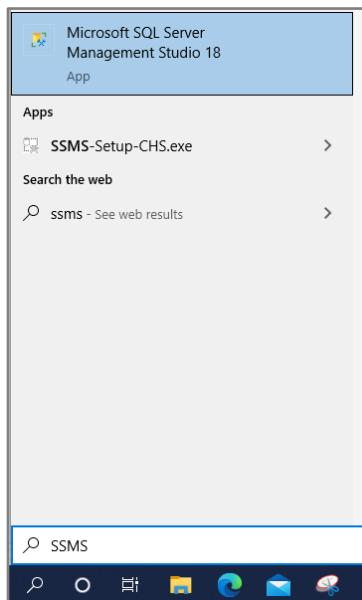

Figure 16-9 Open SQL Server Management Studio
- 1) Open the SQL Server Management Studio, referred to as SSMS here(Figure 16-9).